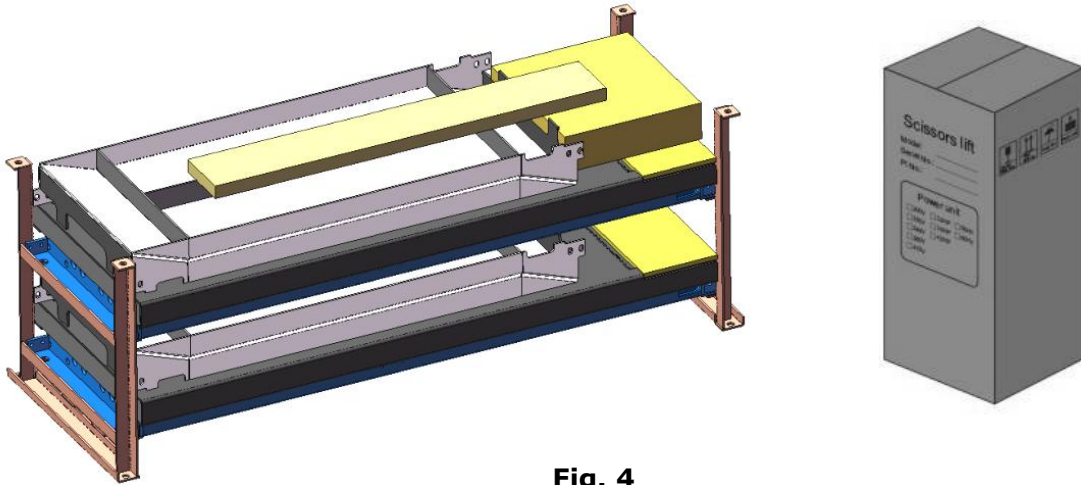

Fig. 4
1. Packaged lift, Parts box, Control Cabinet (See Fig. 4).